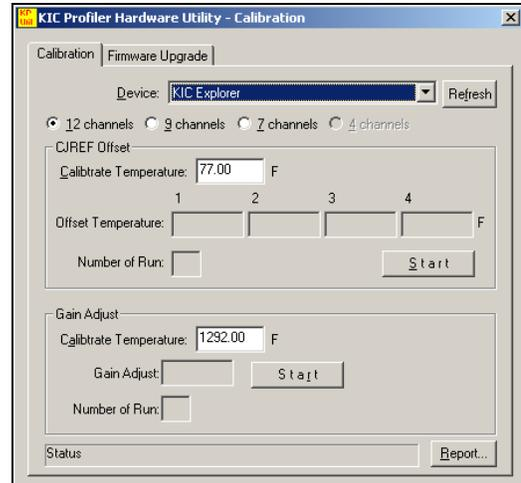

Figure 214
2. When both the *calibration Temperature* field and the thermocouple simulator output values match, select the *CJREF Offset-Start* button to begin the *KIC Explorer* calibration. See Figure 214.